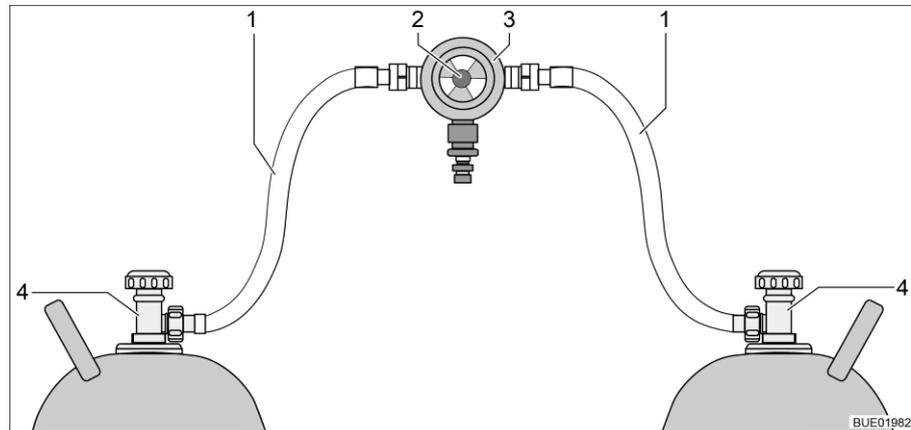
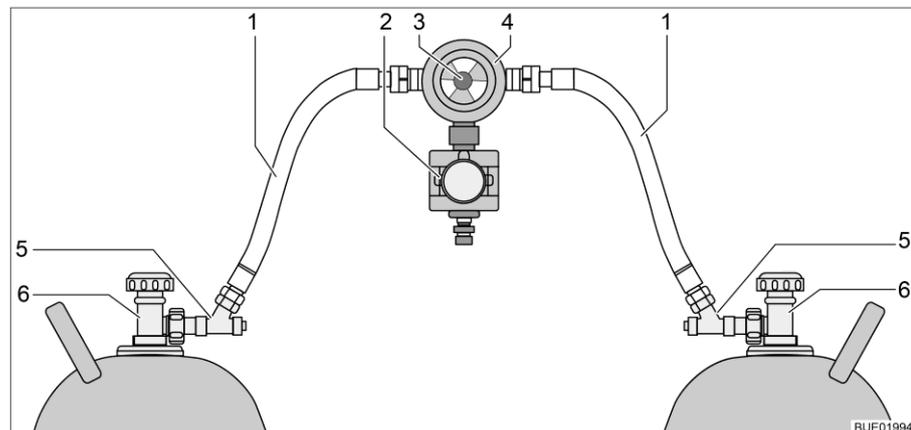

Fig. 39 Gas bottle switching facility
Fig. 40 Gas bottle switching facility with CPU
The gas bottle switching facility consists of a combined gas pressure regulator with reversing valve and indicator (Fig. 39,3). The gas bottle switching facility is installed between the two gas tubes (Fig. 39,1).
The gas bottle switching facility consists of a combined gas pressure regulator with reversing valve and indicator (Fig. 40,4), and an electrovalve (Fig. 40,2). The electrovalve blocks the gas supply to the vehicle in the event of a full braking, an accident, or an unusually great inclined position. The gas bottle switching facility is installed between the two gas tubes (Fig. 40,1) with hose break guards (Fig. 40,5).
**Function** The gas bottle switching facility ensures a constant gas pressure, regardless of which gas bottle is being drawn upon. The display in the reversing valve shows the filling level of the primary bottle. The gas supply comes from the primary bottle when the display is green. When the display is red the primary bottle is empty. In this case, the reserve bottle is used for the gas supply. Use the knob (Fig. 39,2 or Fig. 40,3) on the gas bottle switching facility to select which of the gas bottles is to be used as a primary bottle and which is to be used as a reserve bottle.
Only the electrical functions can be switched at the operating unit (Fig. 41). The regulator taps on the gas bottles (Fig. 39,4 or Fig. 40,6) must be opened and closed manually.
- Open the regulator taps of the gas bottles (Fig. 39,4 or Fig. 40,6).
- Press the hose break guards (Fig. 40,5) successively for 10 seconds.
- Use the knob (Fig. 39,2 or Fig. 40,3) on the switching facility to select the gas bottle which is to be the primary source of gas (primary bottle). Always turn the knob as far as it will go.
- Close the regulator taps of the gas bottles (Fig. 39,4 or Fig. 40,6).